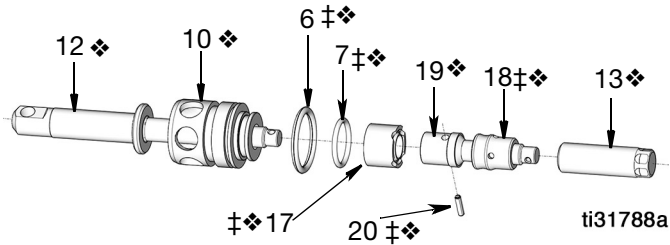

FIG. 21
5. Install intake seal (17‡❖) on the shovel rod (12❖) (FIG. 21).
7. Clean threads of piston rod (19❖) and alignment rod (13❖) with solvent to prepare it for thread locking compound (FIG. 21).
- It may be easier to assemble the two parts by clamping the piston rod in a vise. Take care when clamping the rod in vise to not over-tighten the vise around the rod which could damage the rod or scratch the outside surface. Clamp only on recessed surface of piston rod (19).
- If using a vise, to prevent the rod from rotating while torquing the two parts. insert a pin that is longer than the spring pin (20) through the pin holes.
9. Screw shovel rod (12❖) into piston rod (19❖). Tighten until pin holes in each rod (FIG. 21) align.
10. Install spring pin (20‡❖) through holes aligned in Step 6 (FIG. 21).